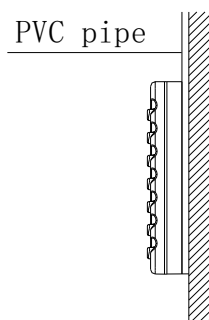
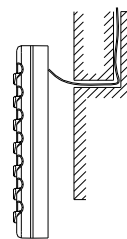

Fig6: Surface Mounting of Cable
Fig7: Concealed mounting of Cable
2. If the communication line between the wire controller (85×85×20) and the indoor unit is surface-mounted, use 1# PVC pipe and make matching recess in the wall (refer to Figure 6); If concealed installation is adopted, 1# PVC pipe can be used (Refer to Figure 7).